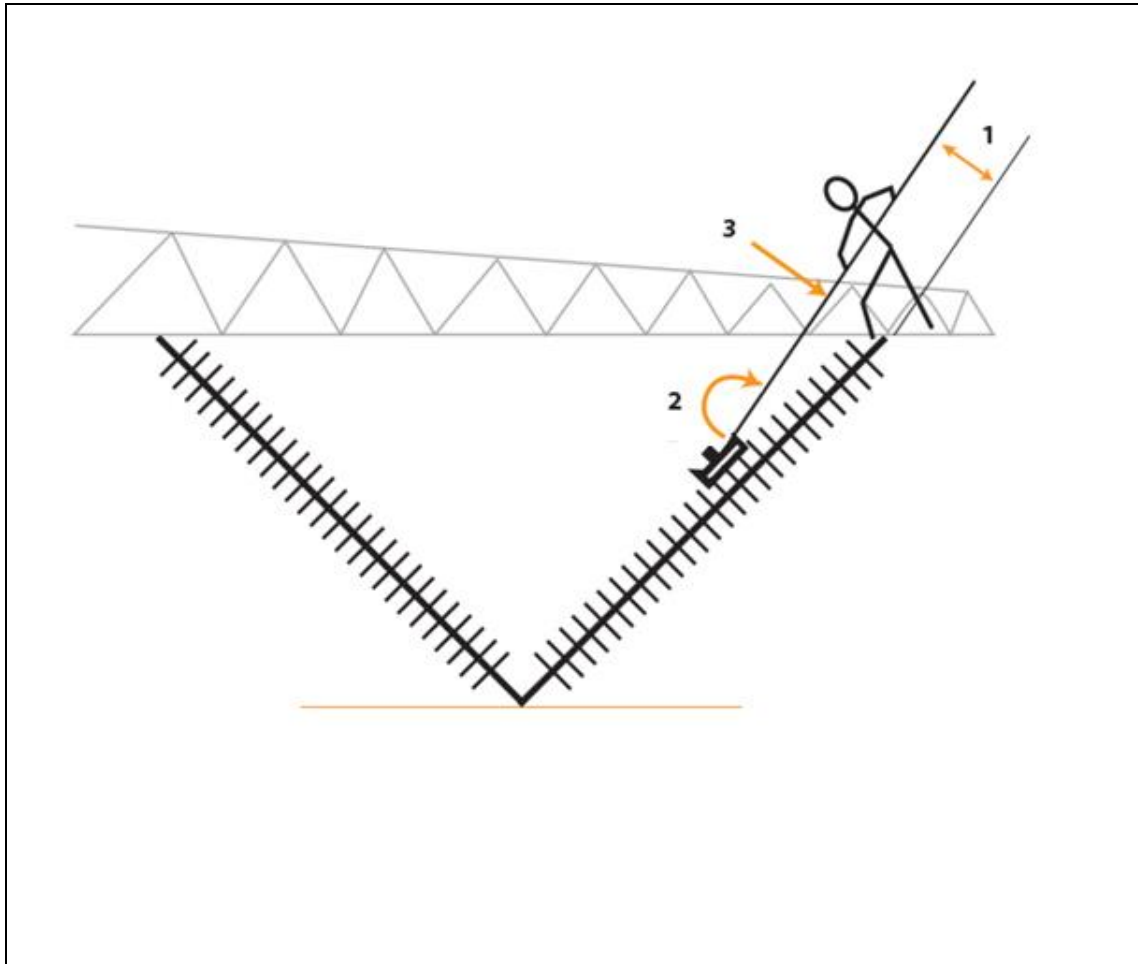

Figure 23
1. To facilitate the manipulation, the hot stick should be almost parallel to the insulators, per Figure 23.